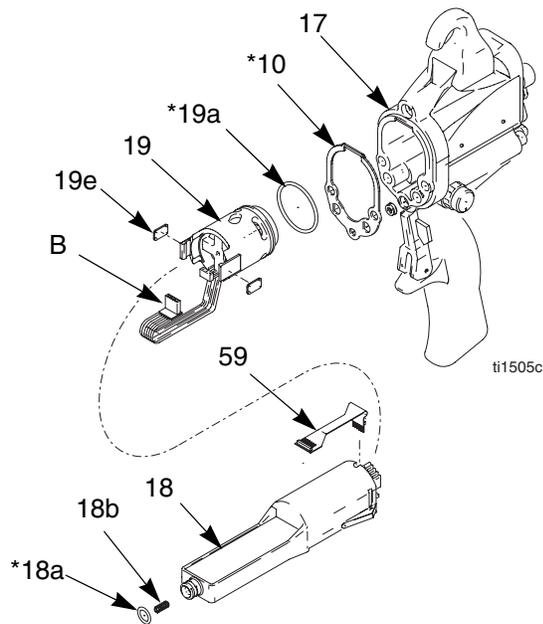

Fig. 18. Power Supply and Turbine Alternator
3. Grasp the power supply (18) with your hand. With a gentle side to side motion, free the power supply/alternator assembly from the gun handle (17), then carefully pull it straight out. *On Smart Models only*, disconnect the flexible circuit (59) from the socket at the top of the handle (17). See FIG. 18.
4. Disconnect the 3-wire connector (B) from the power supply. Slide the alternator up and off the power supply. Inspect the power supply and alternator for damage. *On Smart Models only*, disconnect the 6-pin flexible circuit (59) from the power supply.